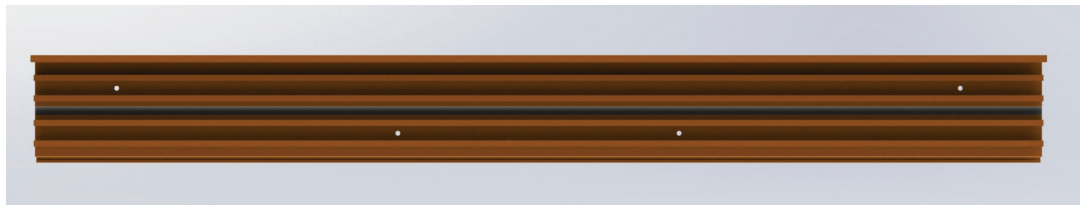

Fig. 11
- Fasten receptor with screws by others per shop drawings or anchorage calculations. Typically 3" from the ends and 12" on center. (Fig. 11)